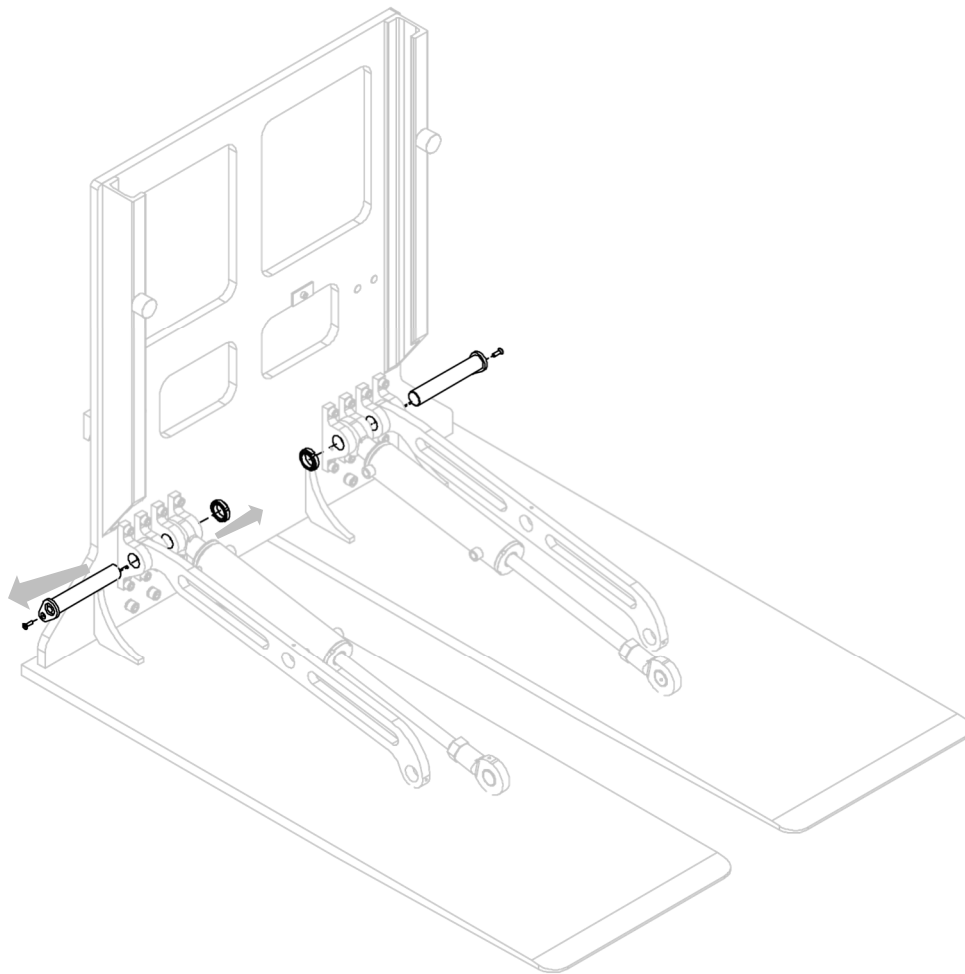

Figure 26
3. Remove the pins that hold the cylinders (and the remaining arms) to the bolted supports (see *Figure 26*).